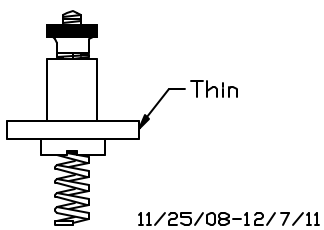

Figure 1
The very first **Magneto Contact Assembly** used on the very early T's was not the usual "Brass" post that is normally found on the 09-17 cars. This very first assembly while similar in concept had a short housing that was only 7/8" tall and made entirely of hard fibre. It had a short small diameter spring inside that rested on top of the magneto primary contact of the magneto coil ring. There was no slug in the end of the spring. This very first design was drawn on September 21, 1908 but was soon replaced on November 25, 1908 with the more familiar "Brass" style. This first "Brass" design featured a rather thin natural hard fibre ring (see Fig. 1) and the internal special tapered spring (made from phosphor bronze) was designed to fit tightly up in the brass sleeve while the other end simply sat on the primary magneto contact as did the earliest design. The internal brass sleeve was crimped in 2 places at the bottom in a groove placed there for that purpose. The assembly was held in place with (3) 10-32 x 3/8" Fillister head machine screws. No lock washers were used. A brass thumb nut with a diamond knurl pattern was used to fasten the magneto wire and a small 3/8" OD lock washer was used there.